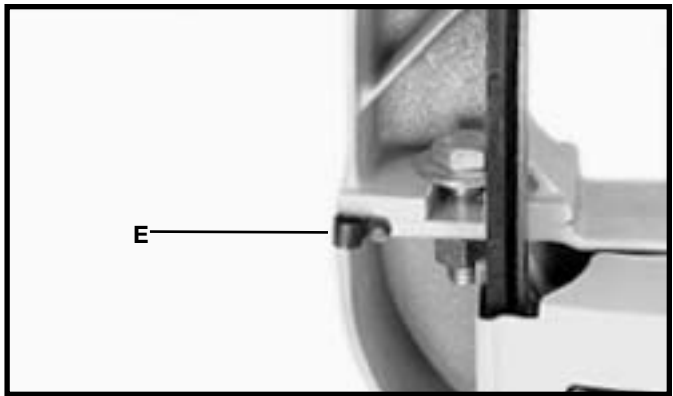

Fig. 15
6. Remove the screw and cable clamp (E) Figs. 15 and 16 from the lower arm of the band saw.